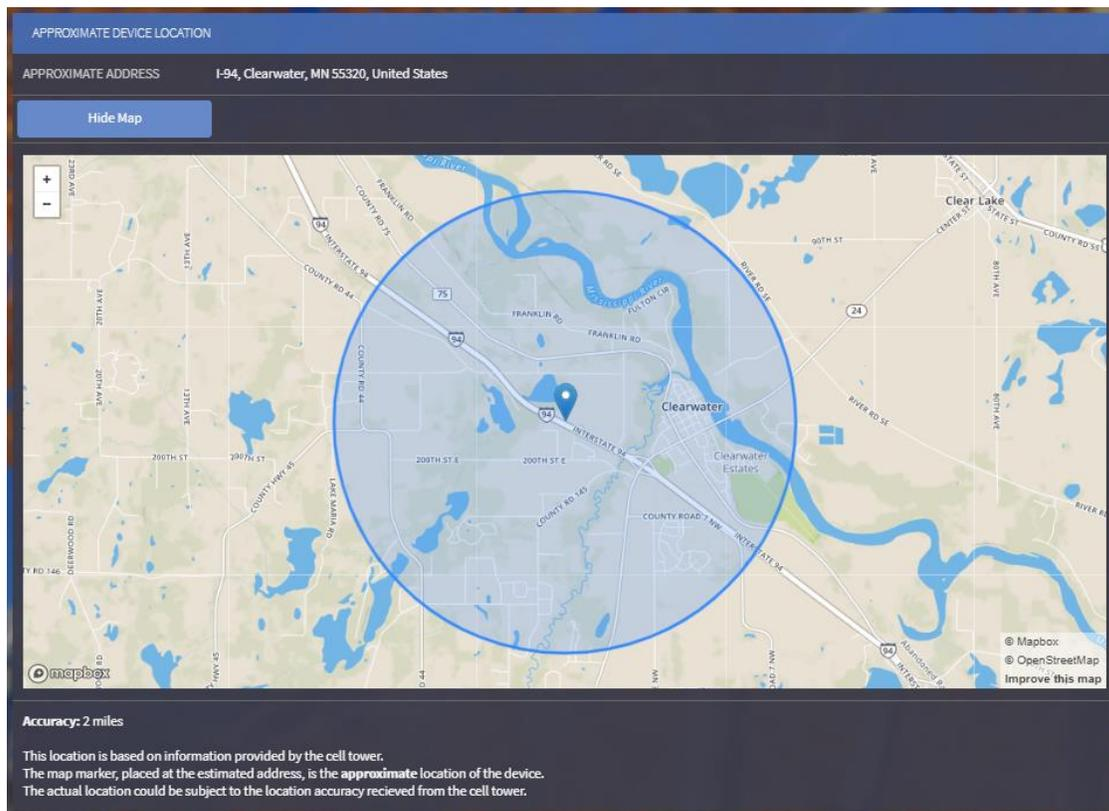

Figure 11
- The "APPROXIMATE DEVICE LOCATION" section can be used to view ema's location. Reference *Figure 11*.